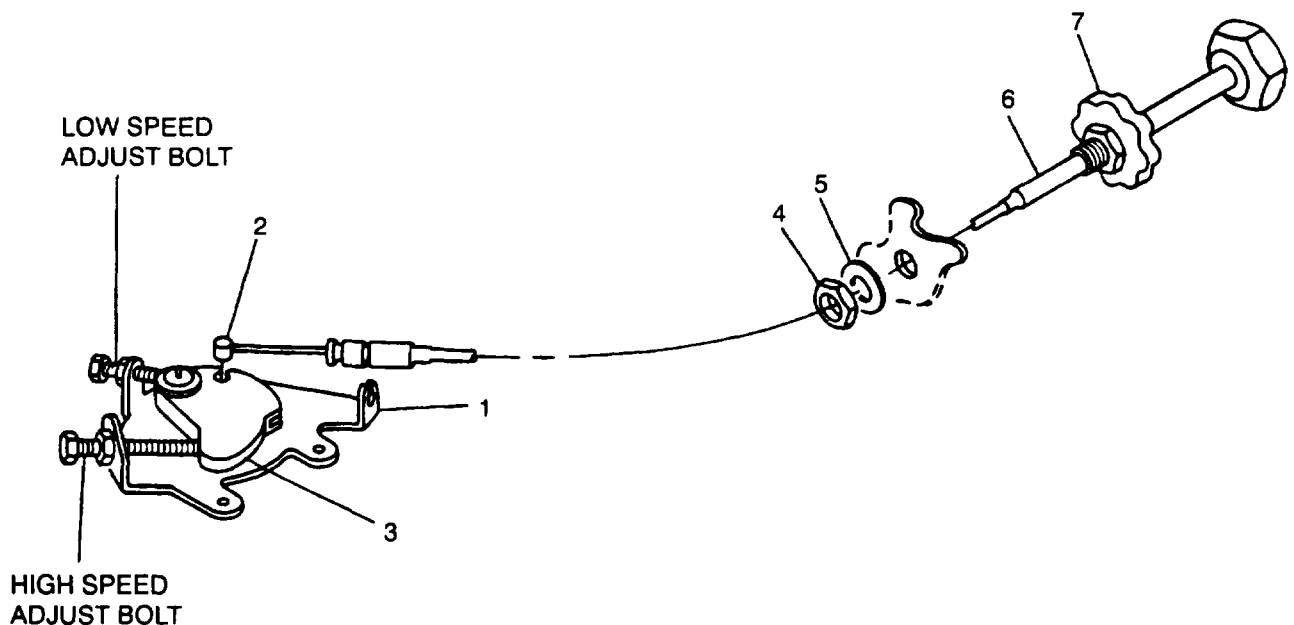

Figure 2-24. Frequency Adjust Control Cable Assembly
- d. Spread keeper (1, Figure 2-24) and remove control cable wedge (2) at governor speed lever (3).
- e. Open load terminal board access door and loosen nut (4). Slide nut (4) and washer (5) off cable assembly (6).
- f. Remove frequency adjust control cable assembly (6) from rear of generator set.
- a. Insert frequency adjust control cable assembly (6, Figure 2-24) at rear of generator set.
- b. Install washer (5) and nut (4), and close load terminal board access door.
- c. Install control cable wedge (2) at governor speed lever (3).
- d. Install frequency control cable (6) in keeper (1). Close keeper (1).
- b. Open left side engine access door and remove control cable wedge (2, Figure 2-24) from governor speed lever (3).
- c. Loosen jam nuts on both speed adjust bolts on governor control and turn bolts counterclockwise until they do not touch speed lever (3).
- d. Adjust frequency control adjust cable (6) with nuts (4) and (7) and connect cable to speed lever (3) so that lever is positioned approximately mid-range.
- f. Turn high speed adjust bolt on governor control until it contacts speed lever (3) and tighten jam nut
- h. Turn low speed adjust bolt on governor control until it contacts speed lever (3) and tighten jam nut